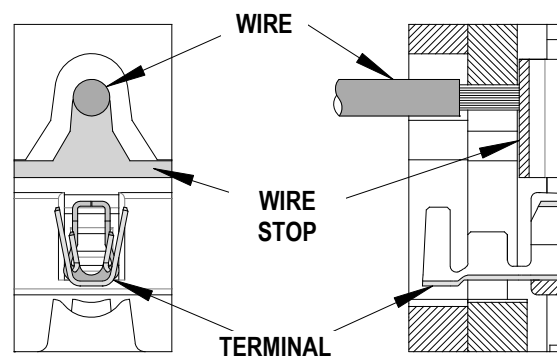

Figure 6
10. On some large O.D. wires, it may not be possible to insert the wire with the tool partially closed. Those wires should be inserted with the hand tool in the open position. Insert the wire above the terminal in the punch and against the wire stop then close the tool. See Figure 6.